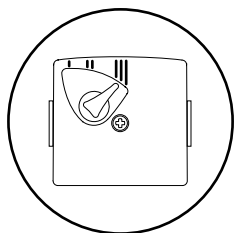

Fig. 86
3. A standard replacement Grundfos 15-60 head can now be fitted. Connect the pump wiring to the new head. **The pump speed must be set to 3** (Fig. 86).